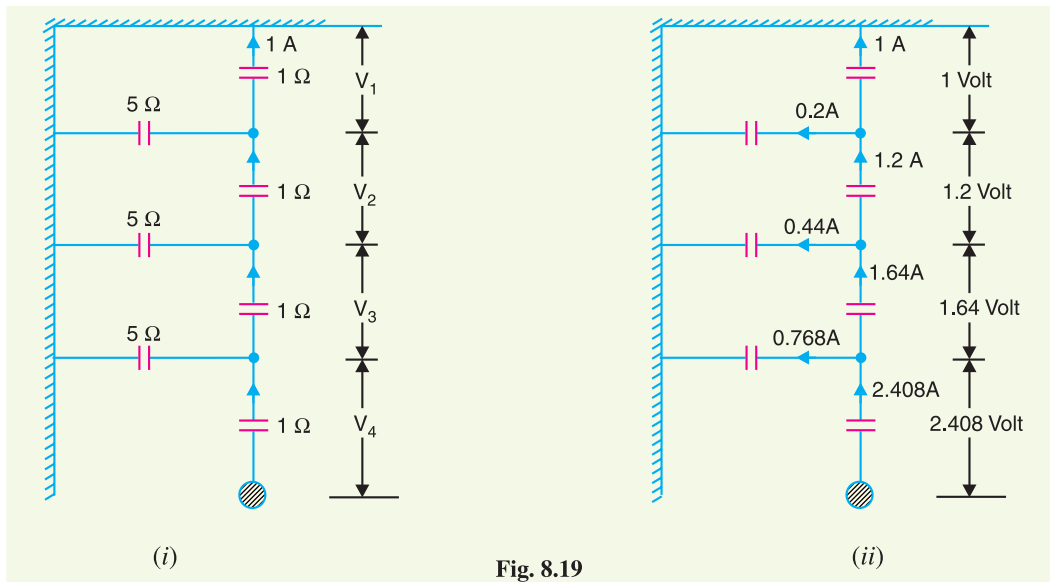

Fig. 8.19
Solution. The ratio of self-capacitance (C) to pin-earth capacitance (C_1) is $C/C_1 = 5$. Suppose $X_C = 1 \Omega$. Then $X_{C1} = 5 \Omega$. Suppose the voltage V across string is such that current in the top insulator is 1A as shown in Fig. 8.19 (i). The potential across various insulators will be as shown in Fig. 8.19 (ii).